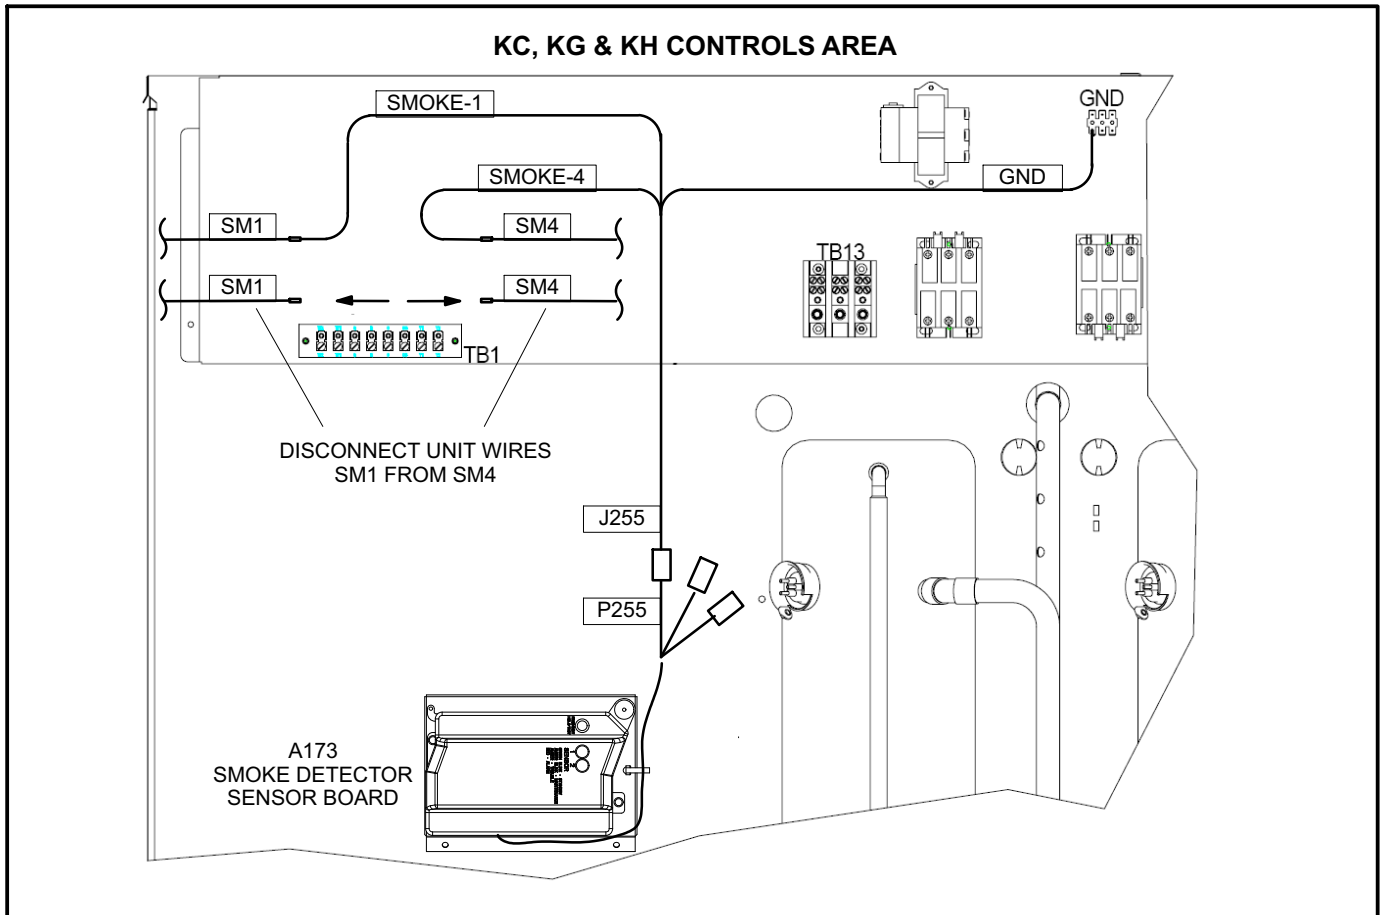

FIGURE 4
- 1- Locate and disconnect wires labeled SM-1 and SM-4 in control area. See figure 4.